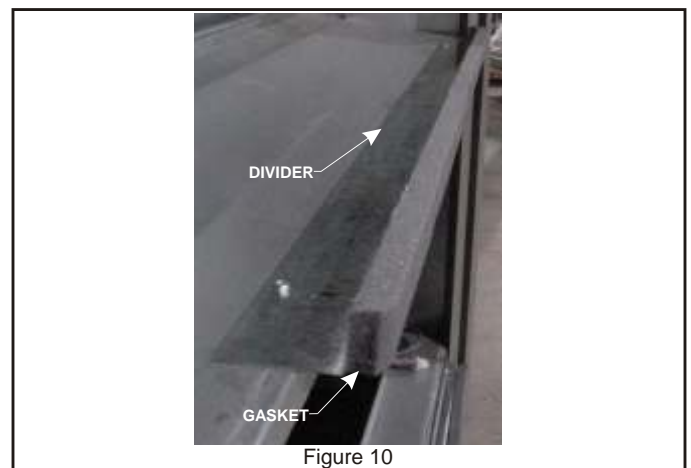

Figure 10
2. Install divider. Attaching to rooftop unit division panel with 1" flange pointing upward. This part has slots to aid in setting to proper position (Approx. 1" away from divider edge). Apply 3/4" x 1 1/4" gasket to front edge of seal stop. **See Figure 10.**